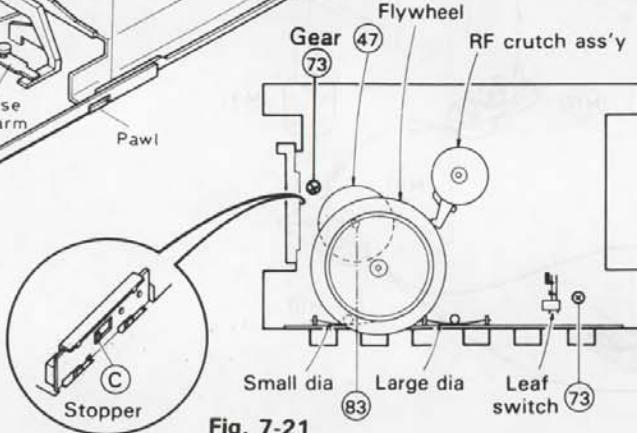

Fig. 7-21
- Gear (47) ... Below the flywheel (Fig. 7-19, Fig. 7-21)
- Lock arm (Fig. 7-21)